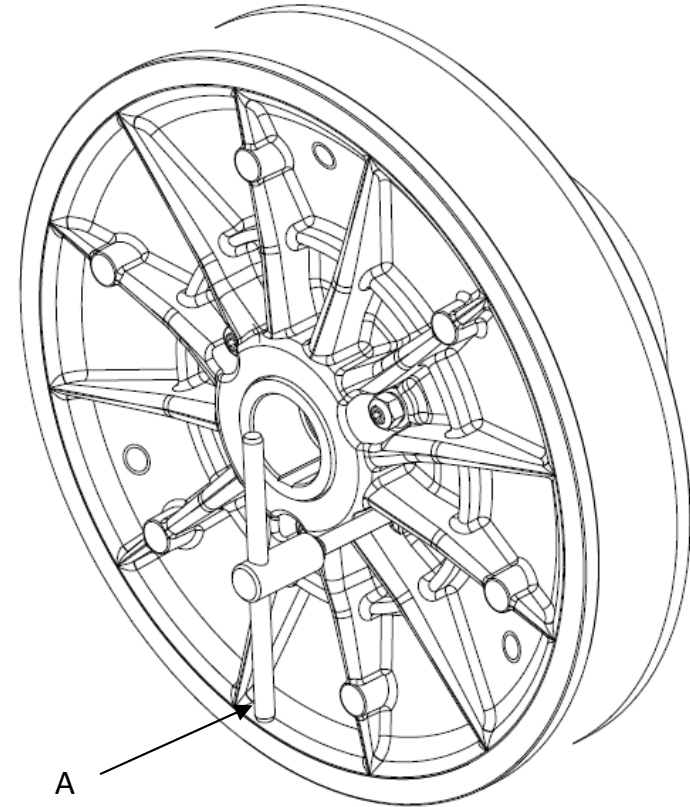

Figure 13
- If the drive belt is installed, screw the flange spreader "A" in the threaded holes, as shown in figure 13, to remove the drive belt.